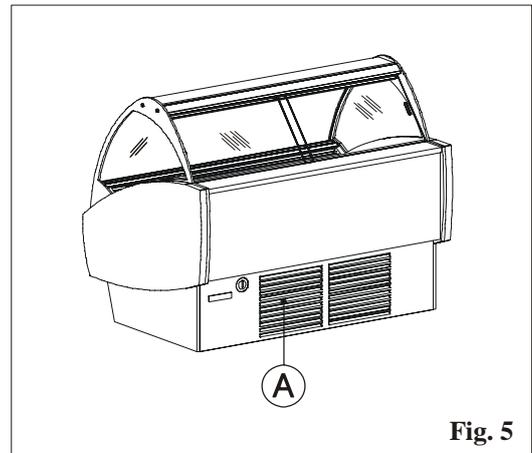

Fig. 5
- The grills for the passage of the cooling air for the condenser are not obstructed (fig.5 pos. A);